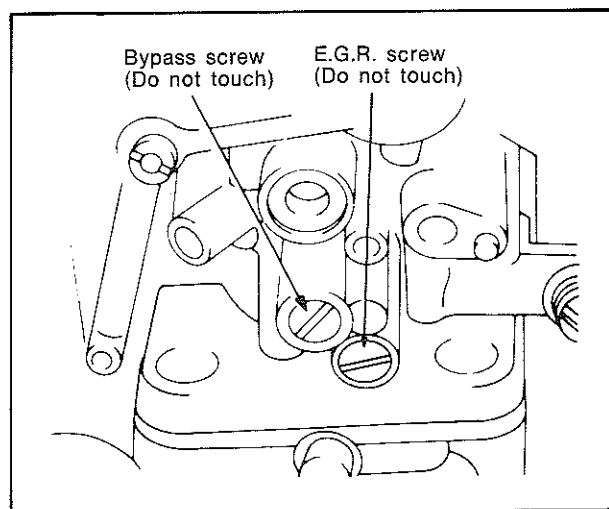

Fig. 22—Bypass and E.G.R. screws
- Do not remove the by-pass screw (Fig. 22), this screw is sealed by paint.
NOTE: Do not tamper with the factory set bypass and E.G.R. screws, shown in Fig. 22.